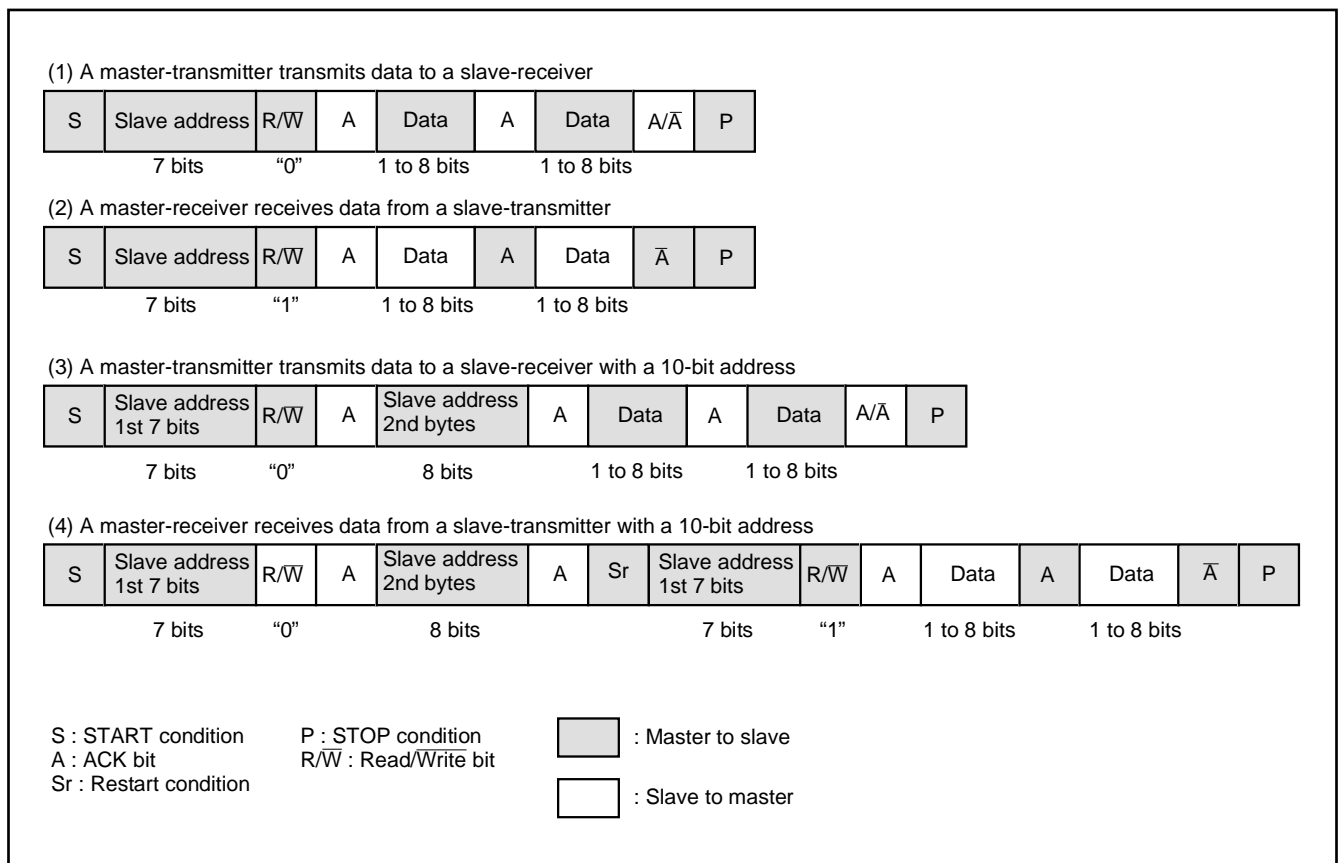

Fig. 77 Address data communication format
parison, an address comparison between the RWB bit of the I²C slave address register and the R/W bit which is the last bit of the address data transmitted from the master is made. In the 10-bit addressing mode, the RWB bit which is the last bit of the address data not only specifies the direction of communication for control data, but also is processed as an address data bit. When the first-byte address data agree with the slave address, the AAS bit of the I²C status register (S1: address 0013₁₆) is set to "1." After the second-byte address data is stored into the I²C data shift register (S0: address 0011₁₆), perform an address comparison between the second-byte data and the slave address by software. When the address data of the 2 bytes agree with the slave address, set the RWB bit of the I²C slave address register to "1" by software. This processing can make the 7-bit slave address and R/W data agree, which are received after a RESTART condition is detected, with the value of the I²C slave address register. For the data transmission format when the 10-bit addressing format is selected, refer to Figure 77, (3) and (4).